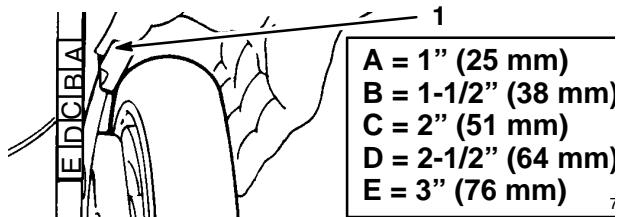

Figure 10
The height of cut can be adjusted to five settings (Fig. 10). For normal cutting, set all four wheels in the same position.
- Squeeze the adjusting lever toward the wheel and move it to the desired setting (Fig. 10). Ensure that the pin on adjusting lever engages the hole in the bracket.